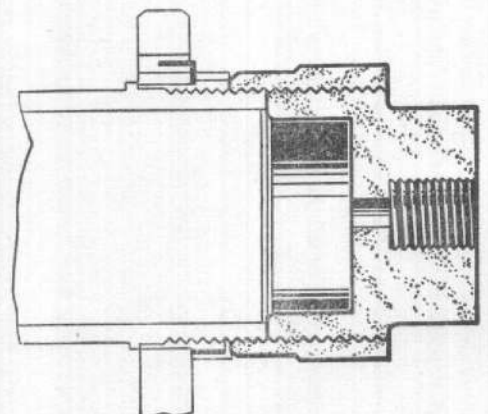

Fig. 39. Air line adapter
- (2) Connect the end of the pipe to a supply of oil OM-13 and prime the pipe run.
- (3) Mount the starter on the fixture and fit and tighten the four retaining nuts.
- (4) Screw the special adapter MK3859 (fig. 39) on to one of the barrels and attach an air line to the adapter.